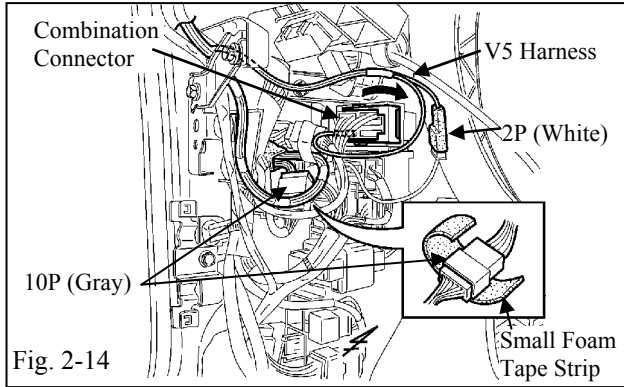

Fig. 2-14
- (t) Plug in the V5 harness' white 2P male connector to the white 2P female connector, and reconnect the combination connector. (Fig. 2-14)
- (1) Verify the connectors are plugged in securely.
- (u) Wrap the Gray 10P connectors in one small foam tape strip. (Fig. 2-14)